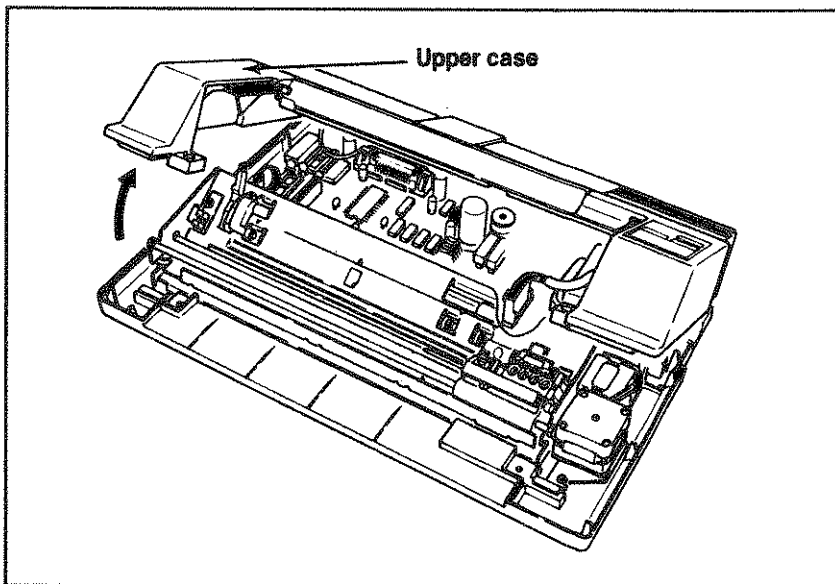

Figure C-4. Tilting open the upper case
4. Slowly tilt up the front of the case but be careful not to pull back too far or you may loosen the wires attached to the connector or the upper case (Figure C-4).